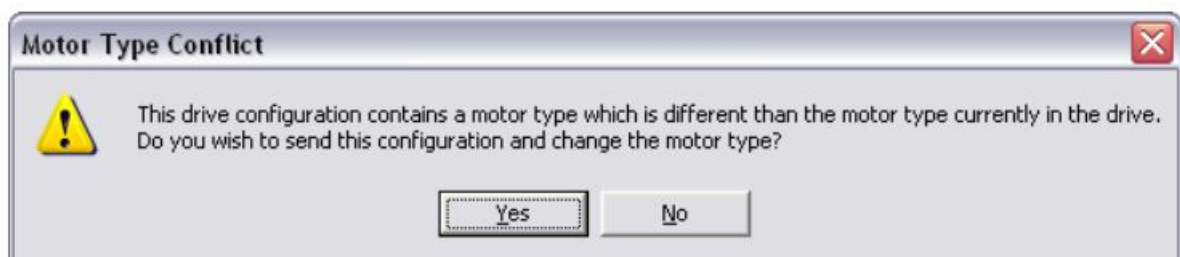

Figure 13. Motor Type Conflict
8. Click Finish. Your drive setup is complete. The P7000 Tools configuration software downloads the new configuration data to your drive and performs an initialization process with the motor. You may see a dialog box such as the one in shown Figure 13 when the configuration data is about to download. Click Yes to continue the download process.